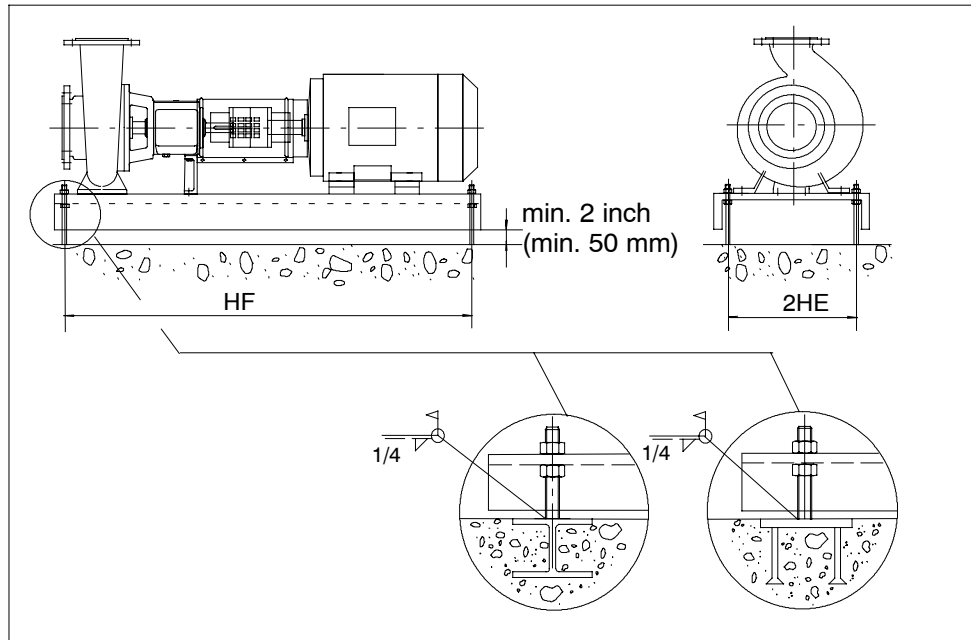

Fig. 1
Place foundation screws (918) in the fixing holes of the baseplate. The distance between the foundation and the lower edge of the baseplate must be at least (2 inches) 50 mm. Each foundation screw is fixed to the baseplate by means of hexagonal nuts (2 pcs/foundation screw). Fig.1.